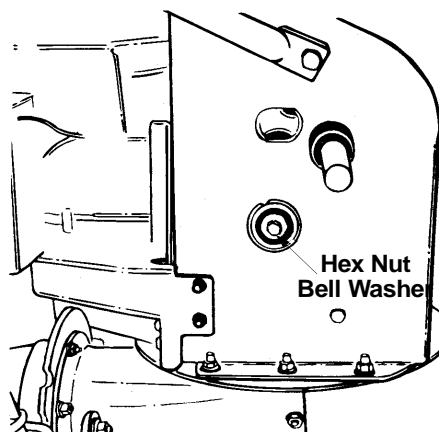

Figure 29
- Using a wrench to hold the shaft, loosen, but do not completely remove, the hex nut and bell washer on the left end of gear shaft. See Figure 29.